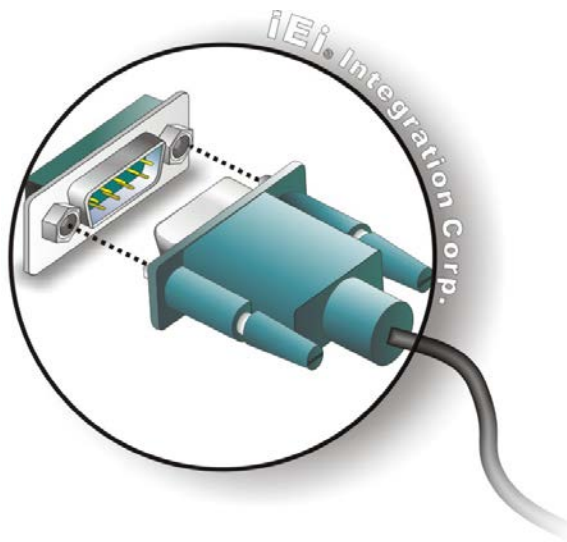

Figure 3-11: Serial Device Connector
Step 2: **Insert the serial connector.** Insert the DB-9 connector of a serial device into the DB-9 connector on the external peripheral interface. See **Figure 3-11**.